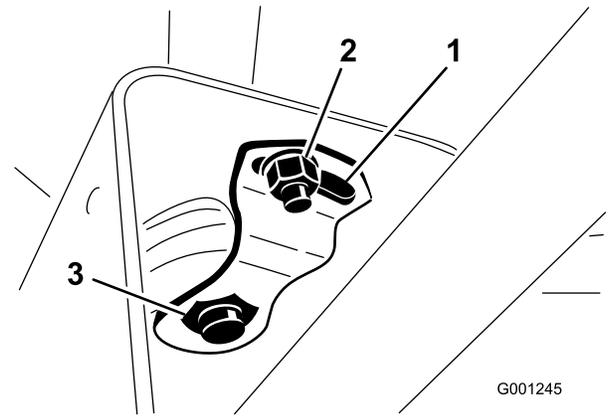

Figure 30
3. Loosen the small nut and rotate the pivot bracket until it tightens the large nut below it (Figure 30).
2. Slide the cover up the steering shaft to expose the pivot bracket (Figure 30).